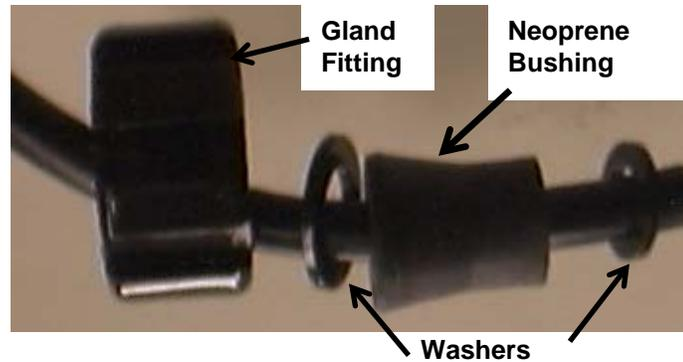

Figure A-9: Load Cell Cable Fed Through Fitting Parts
9. Loosen the gland fitting on the lower left side of the FPR-E ZENO® Assembly. Feed the load cell cable through the fitting parts (see Figure A-9). Thread it through the fitting into the FPR-E ZENO® Assembly and bring the wires around to the front of the I/O PCB.